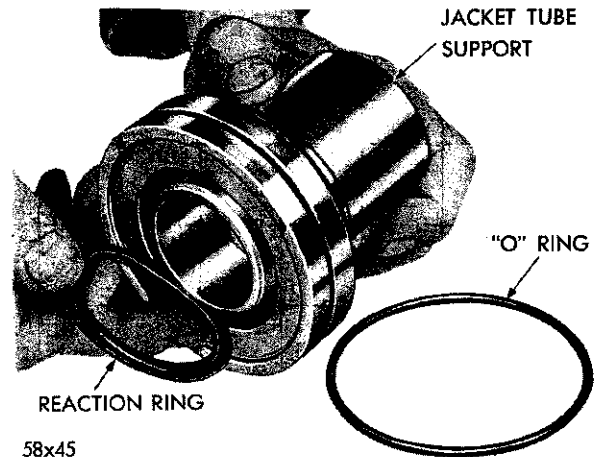

Fig. 19—Installing the Reaction Seal into the Jacket Support
(2) Lubricate and install the reaction seal in the groove in the face of the column jacket support with the flat side of the seal out (Fig. 19).